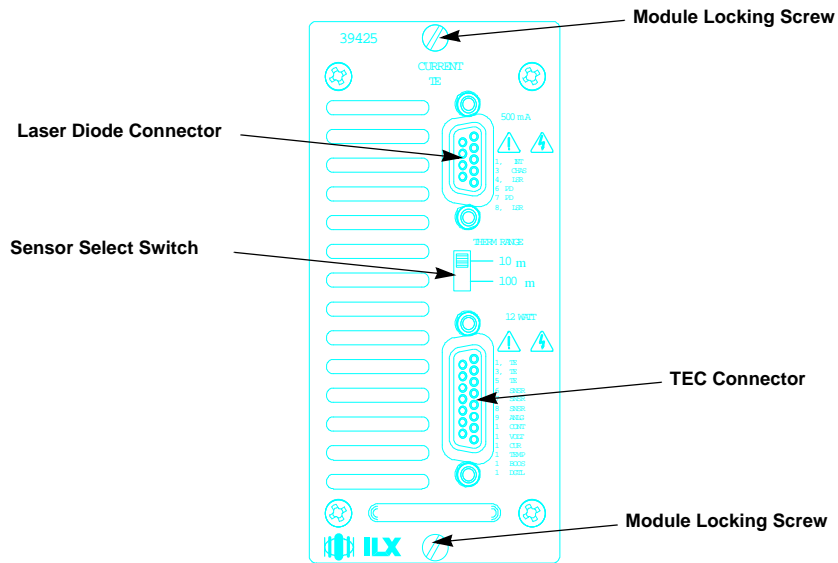

Figure 2.1 LCM-39425 Back Panel
- 2 Place the LCM-39425 module into an open bay on the back of the LDC-3900 and slide the module into place. There are tracks at the top and bottom of the bay which guide the module into place. Push the module into place until the board edge clicks into place with an audible "pop." This indicates that the module is "locked" into place. Fasten module to the mainframe with the Module Locking Screws (see Figure 2.1) to secure the module. It is then ready to be used in the LDC-3900.
- 2 Unfasten the Module Locking Screws (see Figure 2.1) on the LCM-39425 module back panel.
Refer to Figure 2.1 for the following discussion of connections to the LCM-39425.